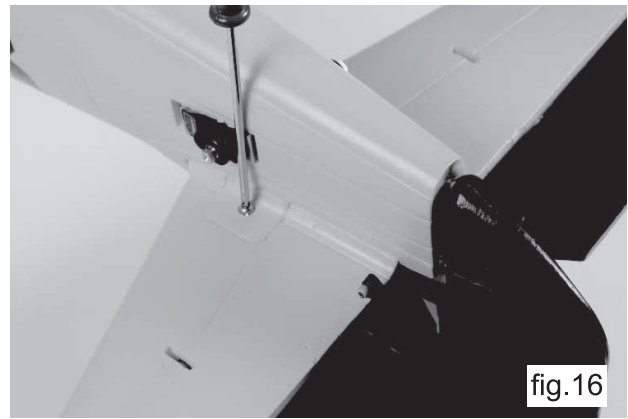

fig.16
- 16) Turn the fuselage over. Secure the horizontal stabilizer with the two supplied screws from bag "H" (fig. 16).